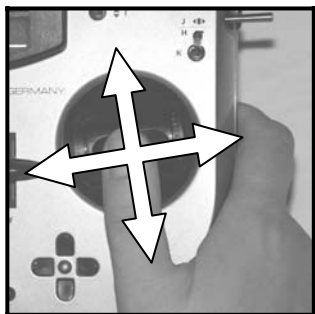

Fig. 9.4.7.1.
- Using the T6 TORX screwdriver (located in clips in the transmitter back cover) (→ Fig. 9.4.7.2.), loosen the three TORX screws which retain the appropriate stick unit until the unit can be swivelled.